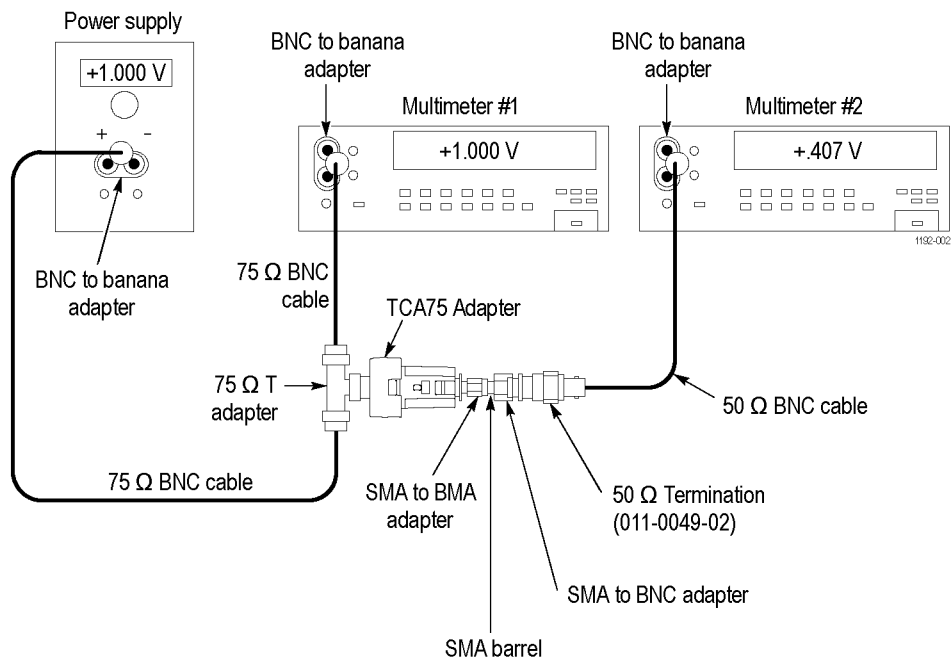

Figure 8: Test setup for attenuation accuracy
2. Connect the equipment as shown. (See Figure 8.)